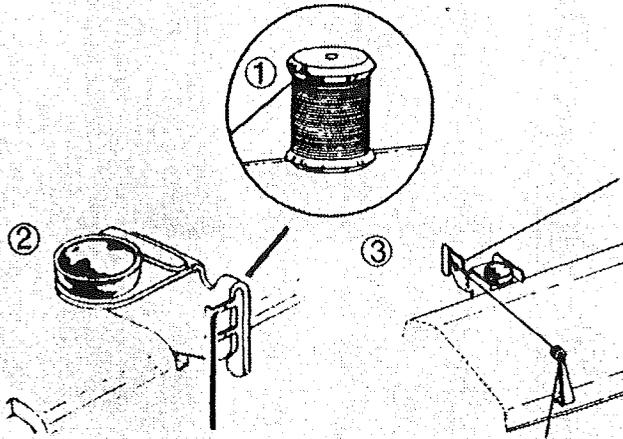

Fig 1
1. Place thread on spool pin as shown, with the thread coming from the back of the spool (Fig. 1-①). Draw thread through the top thread guide(s) (Fig. 1-② or ③).